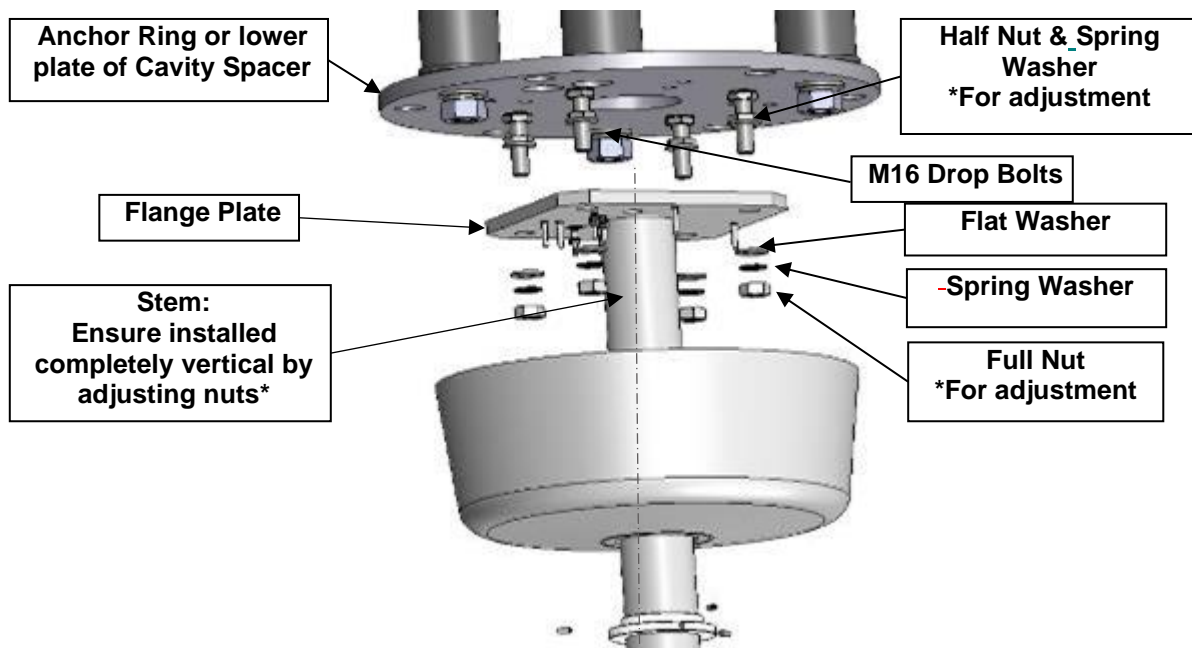

Figure 23
- Offer up the bracket to the stem then pass the cables through the stem. Carefully insert the Spigot though the end cap into the stem. See fig 23.